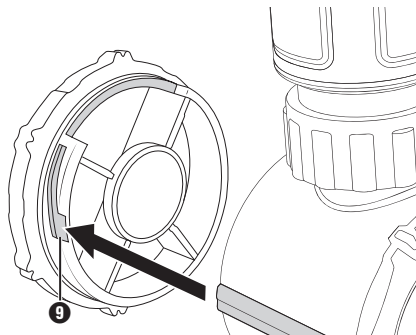

Fig. 2
- ◆ Place the battery compartment cover **9** on the battery compartment with the large recess facing upwards. Make sure that the small recess fits onto the battery compartment. Turn the battery compartment cover **9** as far as it will go in the opposite direction to the arrow shown on the type plate (see fig. 2).